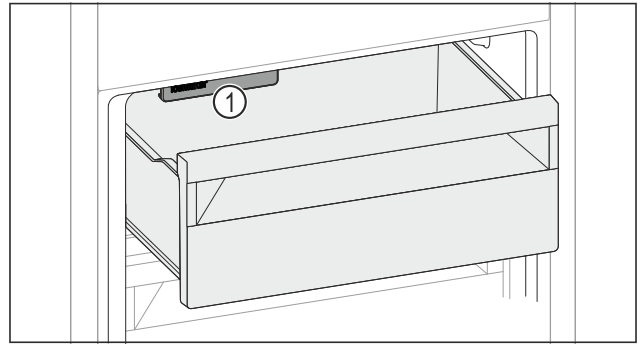

Fig. 115
- ▶ Watch out for the IceMaker Fig. 115 (1).